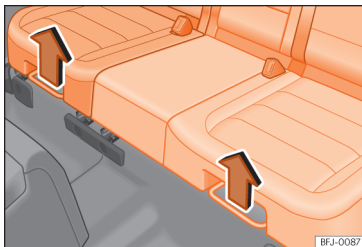

Fig. 91 Under the bench of the rear seat: adjustment lever.
- Pull the right or left lever upwards in the direction of the arrow >>> Fig. 91, and move the corresponding part of the seat forward or backwards.